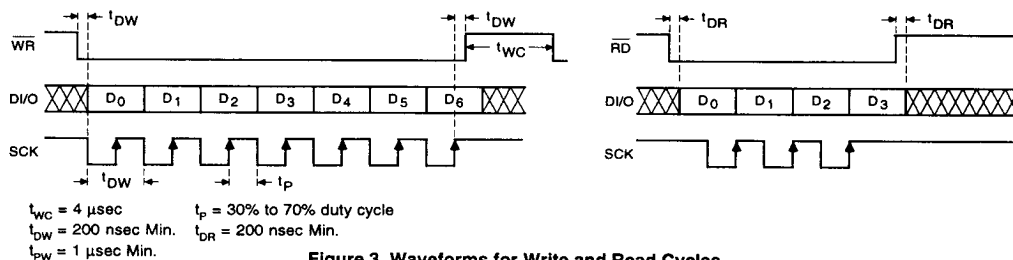

Figure 3. Waveforms for Write and Read Cycles
2. Information from the modem IC. Data is read serially from the modem when \overline{RD} is low, on rising edges of the SCK clock. (See Figure 3 for read cycle waveforms). Up to 4 data bits (D0-D3) can be read as defined below:
are shifted by repeating the above procedure. Only 7 data bits should be sent. If an 8th data bit is sent, the first data bit D0 will be lost from the input register. The received data will then be D7-D1 rather than D6-D0. To read data from the SC11004/14 (see timing waveforms of Figure 3), the \overline{RD} line is first made low. The least significant bit D0 is now available on the DI/O line. The SCK line is toggled low and then high to shift the next data bit out of the SC11004/14 output register. The SC11004/14 shifts the data out on the rising edges of SCK. The controller should read data on the falling edges of SCK when it will be stable. Note that D0 appears on the DI/O line as soon as \overline{RD} is taken low. If the controller only wants to read the status of the energy detector, there is no need to toggle SCK line. By making \overline{RD} low, the energy detector level can be read by reading DI/O. \overline{RD} can then be taken